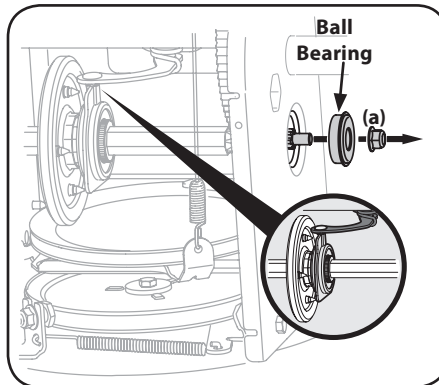

Figure 4-20
5. Carefully remove hex nut (a) which secures hex shaft to equipment frame and lightly tap the shaft's end to dislodge ball bearing from right side of frame. See Figure 4-20.
NOTE: Make sure shift lever pin is in place in bearing housing. See Figure 4-20 inset.